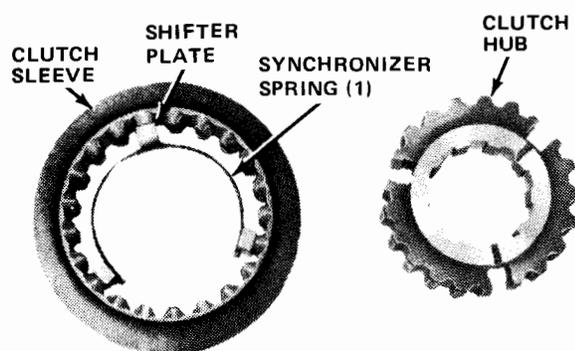

Fig. 6-26 First Gear Synchronizer Assembly
(10) Install First gear and blocking ring on main shaft.
(11) Assemble First gear synchronizer assembly (fig. 6-26). Index sleeve to hub using alignment marks made at disassembly. Install sleeve shifting plates and insert spring and install assembly on main shaft.